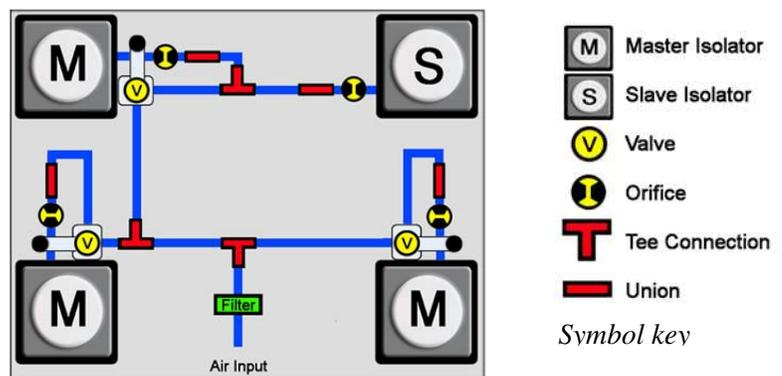

Figure 6 Typical valve schematic for a 4-isolator system
Step 9 Locate the three *height control valves* mounted on isolator posts as typically shown in figure 6, *Typical valve schematic for a 4-isolator system*.